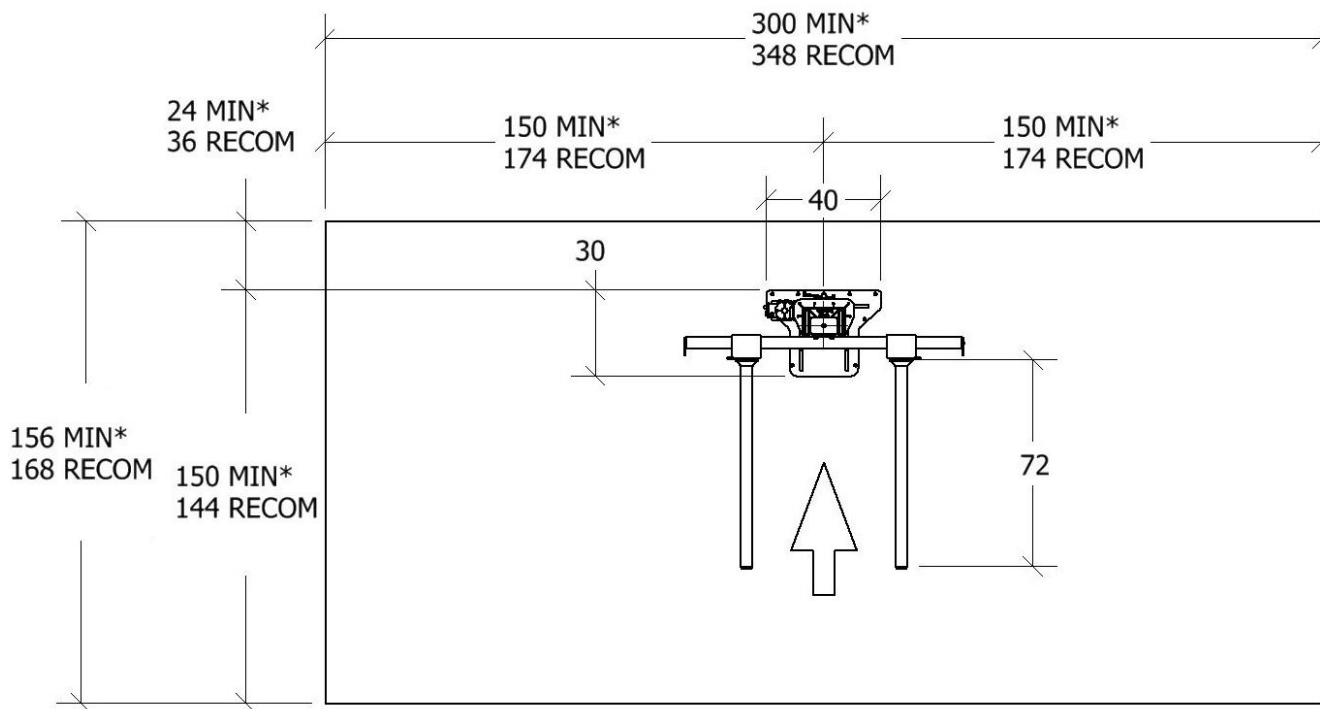

FIGURE 6 : DIMENSIONS DE LA BAIE DE TRAVAIL MINIMALES ET RECOMMANDÉES
- 2. EMPLACEMENT DU GIROLIFT :** SELON LES DISTANCES RECOMMANDÉES DE LA **FIGURE 6**, MARQUER AU PLANCHER L'ENDROIT OÙ SERA INSTALLÉ LE GIROLIFT.